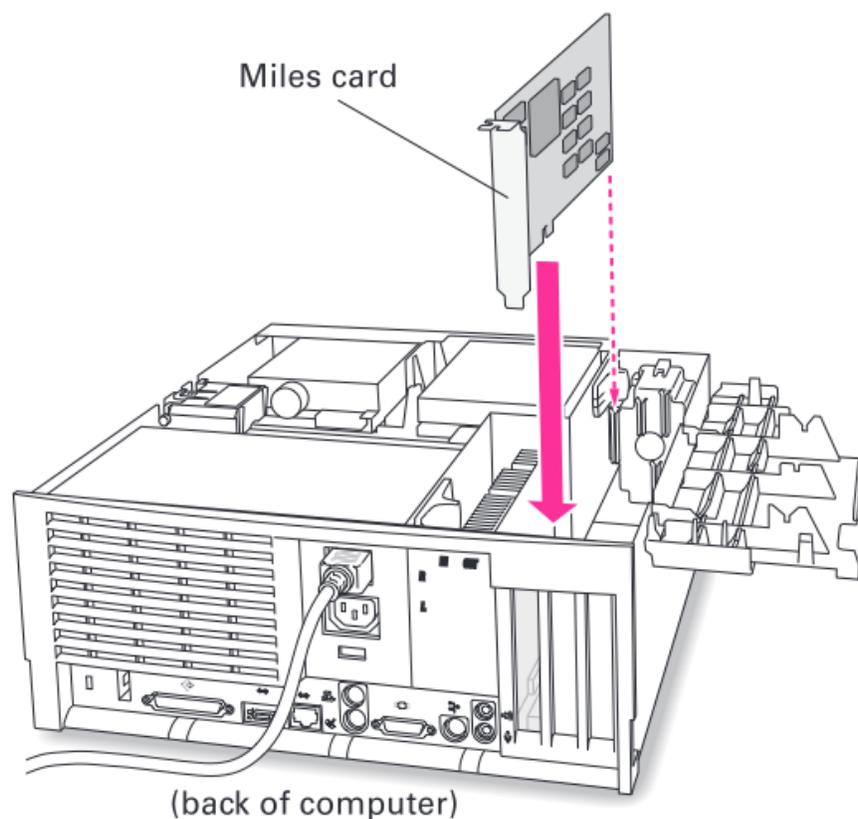

FIGURE 5– Desktop-Model card installation
- 6 Orient the host adapter for installation so that the external connector is facing the back of the System unit and align the card with the PCI connector on the system unit (see FIGURE 5). Holding the adapter by the mounting bracket and the card edge, match up the card edge connector with the PCI host computer socket and insert the card into the socket. Once the connector is in the PCI expansion slot socket tighten the mounting bracket screw to secure the card in place.